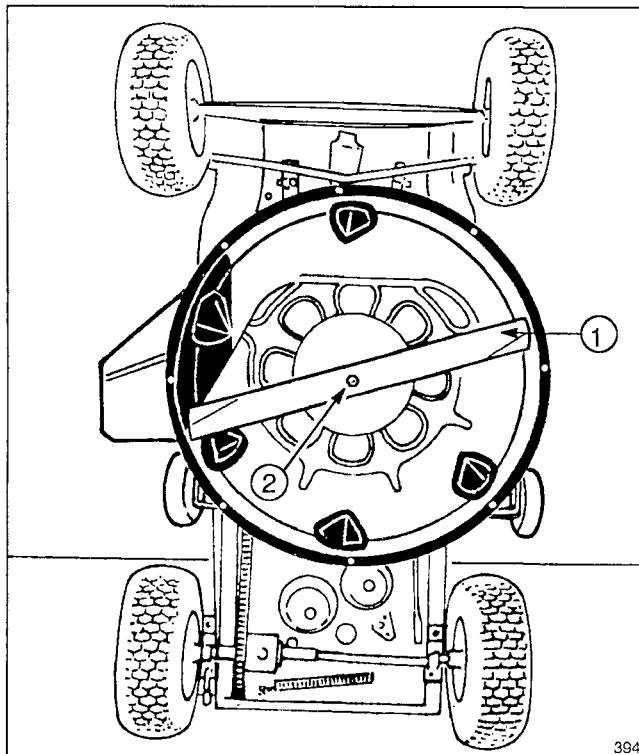

Figure 16
- Grasp end of blade using a rag or thickly padded glove; then remove blade bolt, washer and blade (Fig. 16).
- In sequence, reinstall blade, washer and blade bolt (Fig. 16). Tighten blade bolt to 45-60 ft-lb (61-81 N·m).
6. Remove grass clippings and dirt that are sticking to inside of housing (Fig. 16) by spraying with a garden hose. Scrape out grass and dirt that water does not remove from housing; then spray housing again.